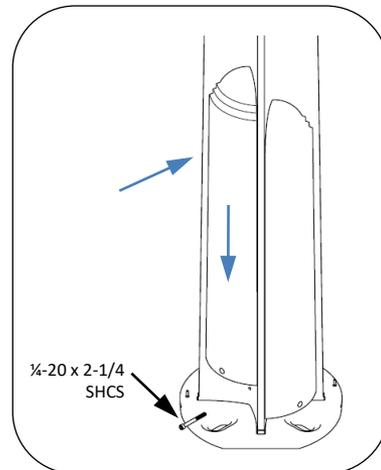

Fig.6 – Install cabinet cover
3. Install one screw as noted in Fig. 6.